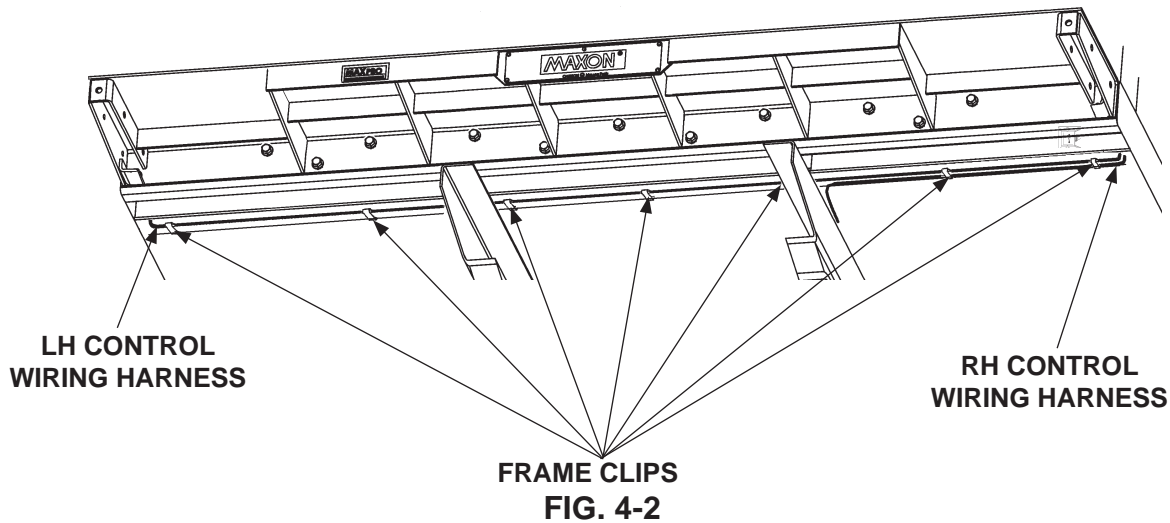

**FIG. 4-1B**
- Route street side control wiring harness (Kit item) up through the inside of the street side vertical post (**FIG. 4-1A**) and out the 3/4" hole (**FIG. 4-1B**). Connect switch wiring to wiring harness as shown in **FIG. 4-1B**. Push extended wiring back into the 3/4" hole in vertical post until switch touches the post. Attach switch to vertical post with 2 self-tapping screws (Kit item) (**FIG. 4-1A**).